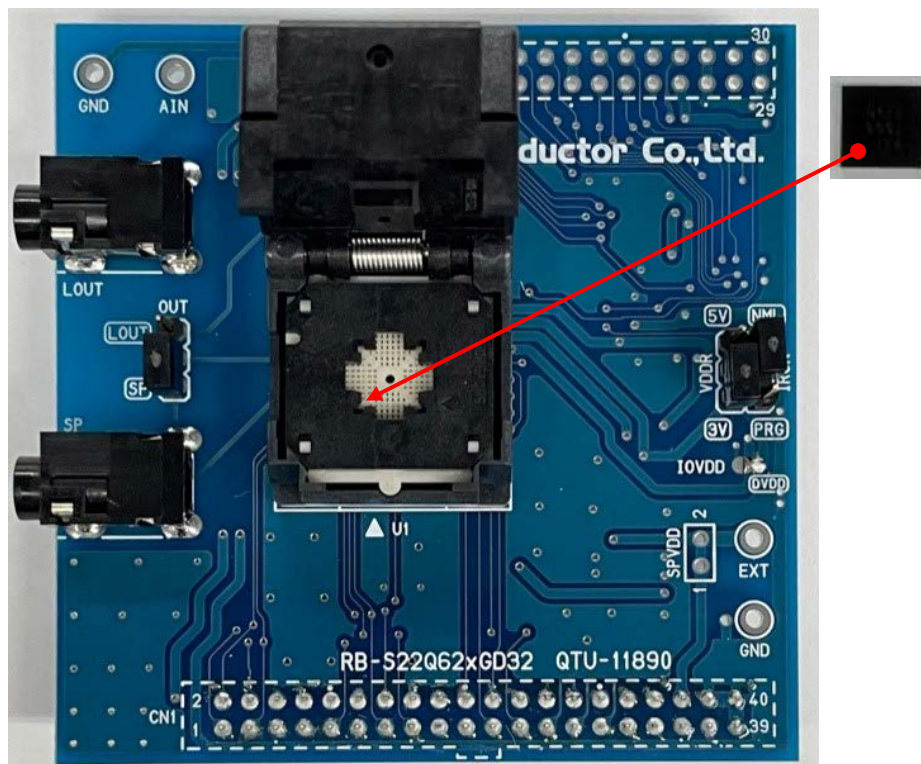

Figure 1 Outline Diagram
- Turn off the power when loading Speech Synthesis LSIs into the RB-S22Q62xGD32. Pin 1 is the position of the board silk ▲ at the bottom left with respect to the socket opening. The Figure 1 shows the setting directions of Speech Synthesis LSIs.